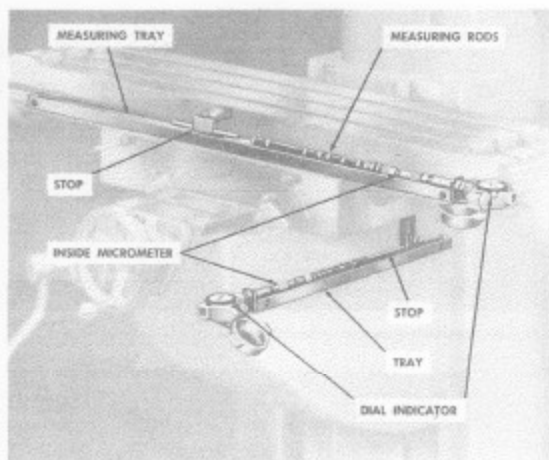
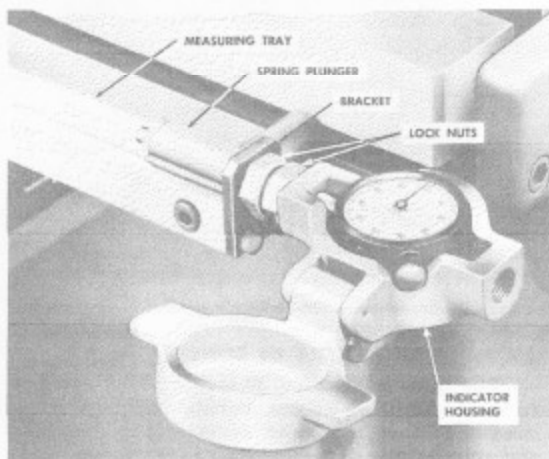

Fig. 31. Measuring trays on milling machine.
Fig. 32. Dial indicator assembly.
Measuring trays may be attached to the knee and table of the milling machine for positioning the table with extreme precision. See Fig. 31. A dial indicator is attached to the end of each tray as shown in Fig. 32. End measuring rods and inside micrometers are placed in the trays between the adjustable stops and the dial indicators. With this arrangement, it is possible to measure the cross and longitudinal movement of the table very accurately.
- E. Assemble dial indicators in housings, being careful to center indicator shaft in threaded hole. Use 1/4" x 3/4" fillister head screw and washer to hold indicator in housing. See illustration, Fig. 32.
- F. Screw spring plunger into bracket (Fig. 32).